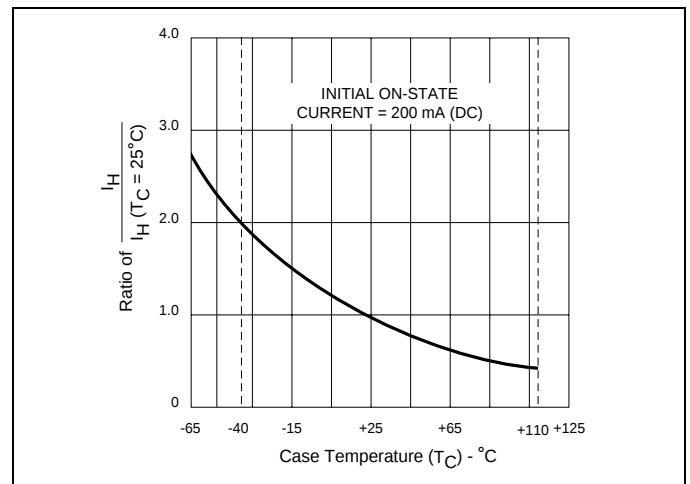

Figure 1.5 Normalized DC Holding Current vs Case Temperature
- (7) See Figure 1.5 for I_H vs T_C .